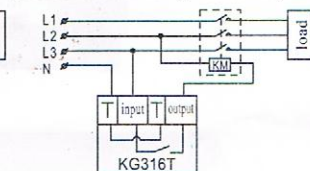

Figure 5 Three-phase working mode
b) If the control conductor's coil voltage is AC 380V 50Hz, then the mode of connection is shown as in Figure5.